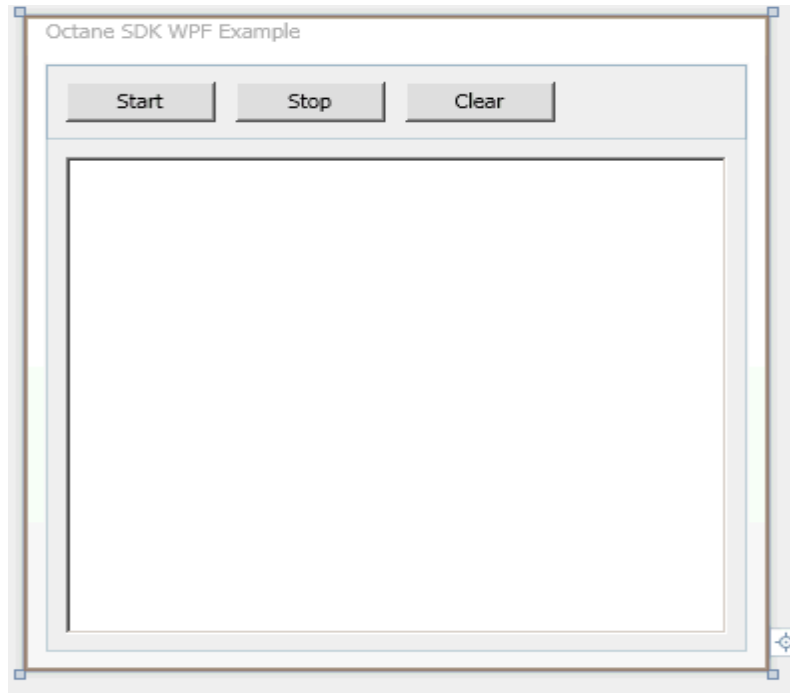

Figure 12 WPF Form Example
3. Enter your code for the WPF example which runs behind the form. See Figure 12.